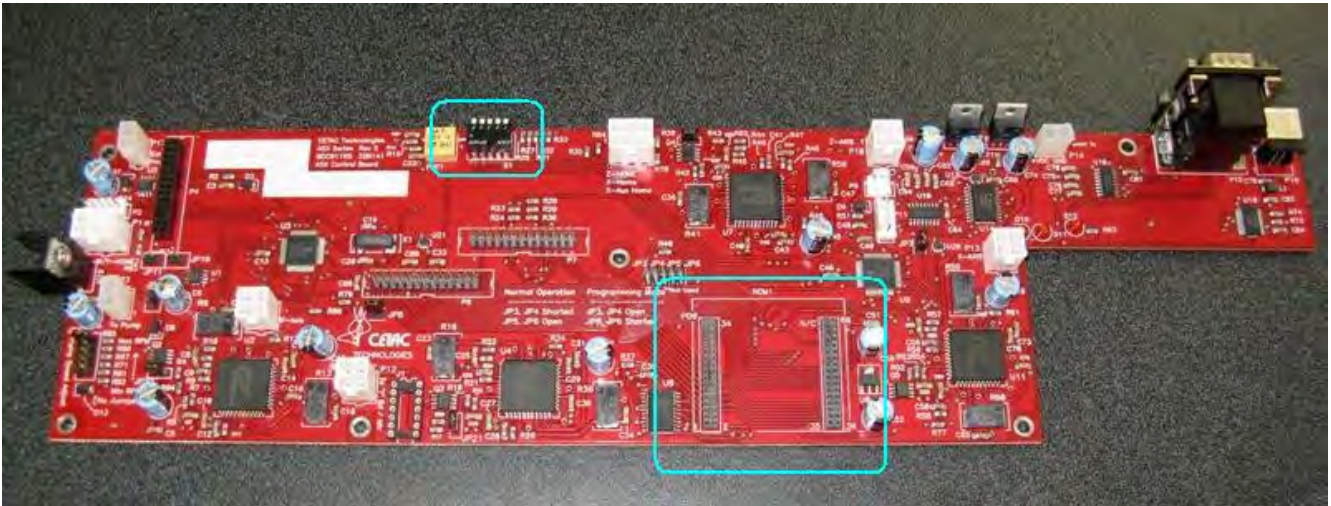

Figure 1-18. Gold corner pad should be oriented toward center screw hole on main board.
19. Set dip switches on the new board to match the dip switches on the old board. See Figure 1-18.
20. If a new rabbit processor is not being installed, remove the rabbit board from the old main board and place in the new main board. Take note that the gold corner pad should be oriented towards the top-left corner as you are looking down. Ensure pin placement is correct before reinstalling new main board. See Figure 1-18.